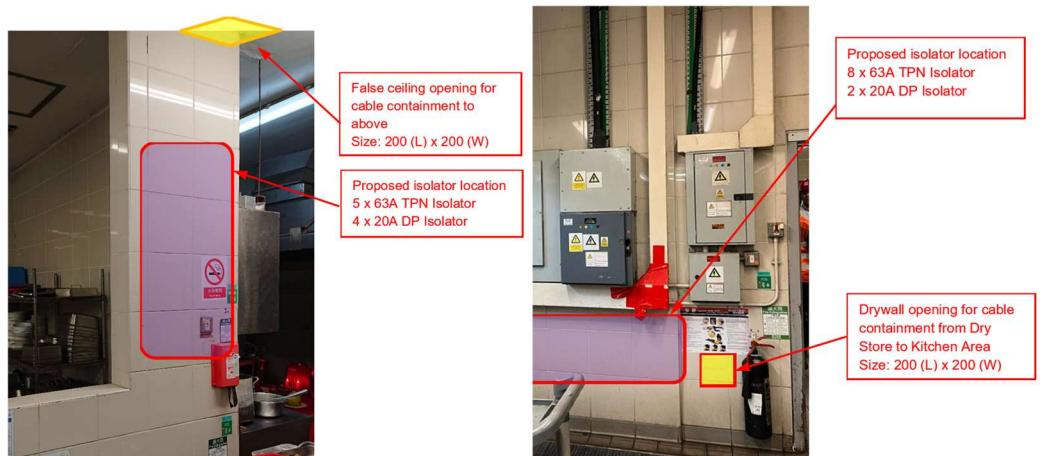

Figure 6 – Ceiling Opening on Kitchen Area
- Formation of Opening on False Ceiling Panel (Refer to section 7.6) – 3 nos. of 200mmW x 200mmH Opening. (see Figure 6) ** Exact setting out of openings to be verified on site **
- Formation of Wall Opening on Drywall (Refer to section 7.4) – 200mmW x 200mmH Opening. (See Figure 6) ** Exact setting out of openings to be verified on site **